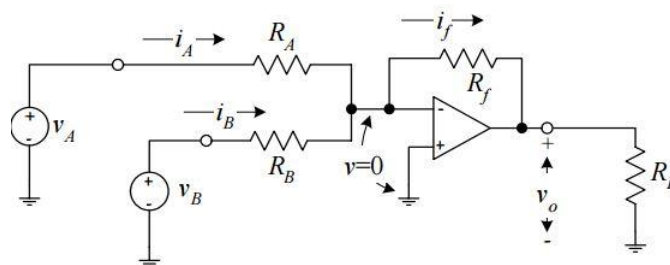

Figure 11: Example of a summing circuit
3. A circuit known as a summing amplifier is illustrated in following Figure 11.